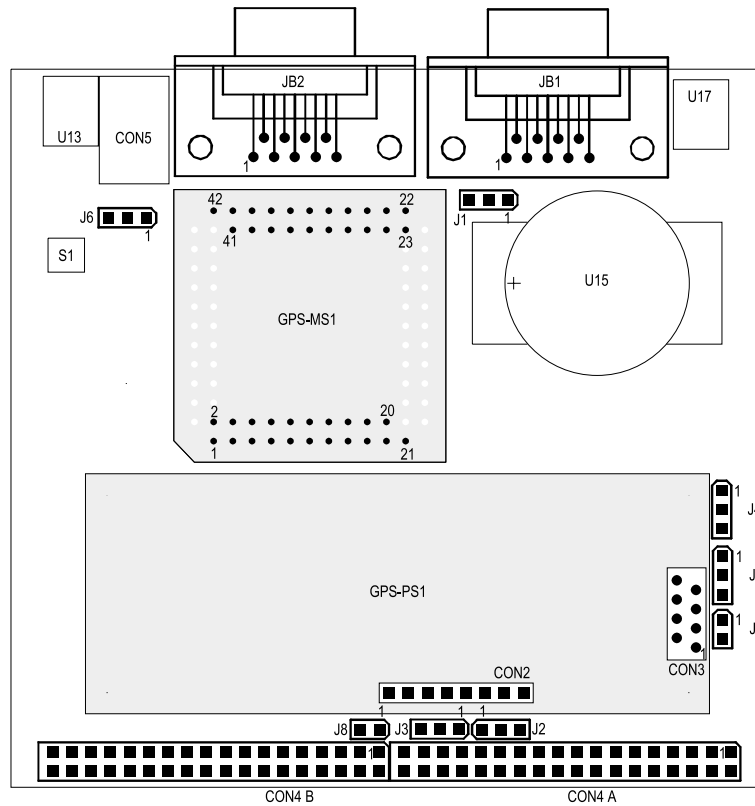

Figure 2.3: GPS-E1 Jumper Locations, Baseboard Version 1/98
3. Locate jumper J8 on the GPS-E1 base board. Add a jumper so that the connection of J8 is closed. See figure 2.3 or refer to the GPS-E1 User's Manual, Appendix A.